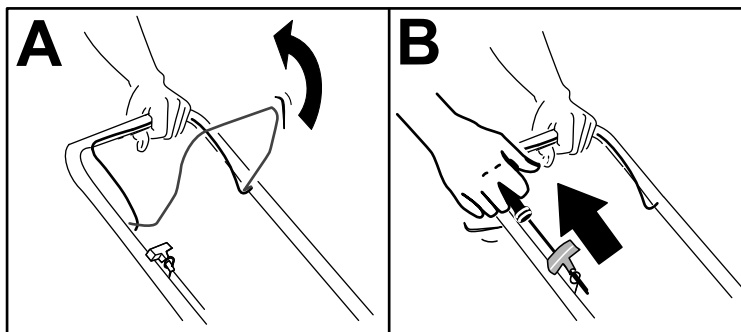

Figure 16
2. Pull the blade-control bar to the upper handle and hold it (A of Figure 16).
3. Pull the recoil-start handle lightly until you feel resistance, then pull it sharply, and allow it to return to the rope guide on the handle (B of Figure 16).